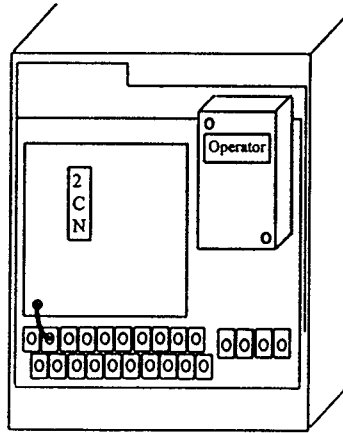

Figure 2 MB+ board Mounting Position
- 4 Orient the MB+ card as shown in figure 2.